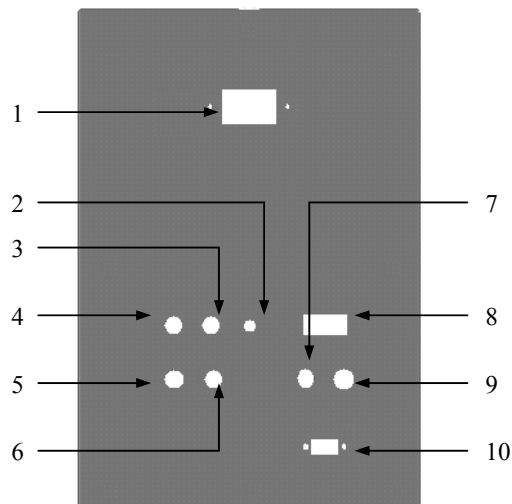

Figure 4 The rear panel of YeastCyte[®]
Deionised and sterile filtered water supplemented with Tween 20 (0.1%) and Na-acid (0.1%) is used as sheath rinse liquid. Mix *e.g.* 10.0 l of water with 10.0 ml of Tween 20 and 10.0 g Na-acid. Connect tubing to the rear panel (point 6 in Figure 4).
Propidium iodide (PI) is used as fluorescent labelling substance. The dye is dissolved in PBS. Protect the dye buffer solution from light (dark bottles) and connect to the rear panel (point 3 in Figure 4).
The sample and the dye buffer solution are mixed in the reaction loop. Only a small fraction of the mixture (approx. 6%) is actually pumped further to the flow cell for measurement. Thus most of the reaction mixture (approx. 94%) is pumped directly to waste. This is collected as high concentrated waste (point 4 in Figure 4). This waste consists of 33% yeast sample and 66% dye buffer solution. Dispose off according to local regulations.
The low concentrated waste (point 5 in Figure 4) consists mainly of the spent sheath liquid containing some yeast and only traces of dye buffer solution. The drain from the drawer in the front (liquid from pipette washing) is also collected in the low concentrated waste, and may normally be drained to the sink.